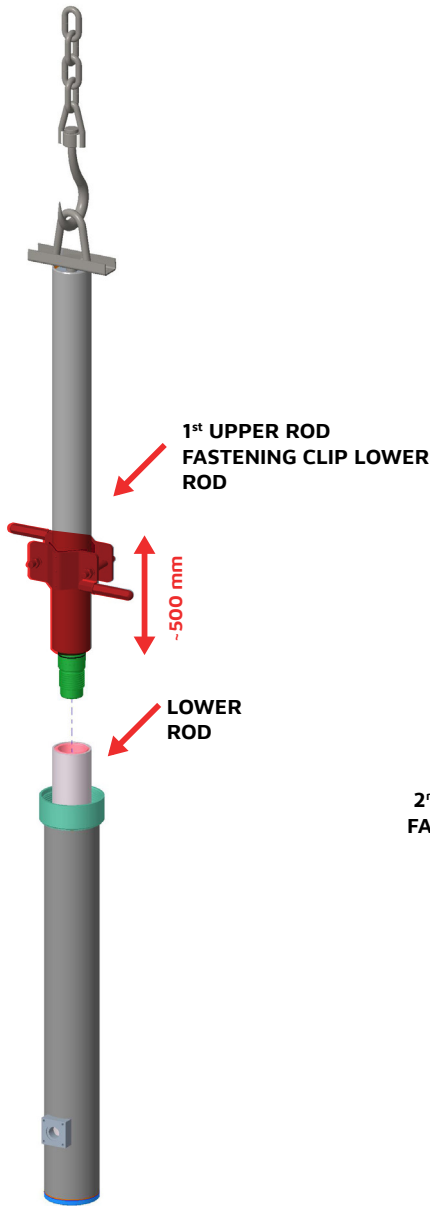

Fig 6
6. Screw in the rod by approximately 90% using the fastening clip first. Lift the piston rod of about 50 cm to allow the second clip to be fixed to the lower piston rod. Make sure the second fastening clip is placed on the lower cylinder joint in order to prevent the rod from dropping. **(Fig 6)**